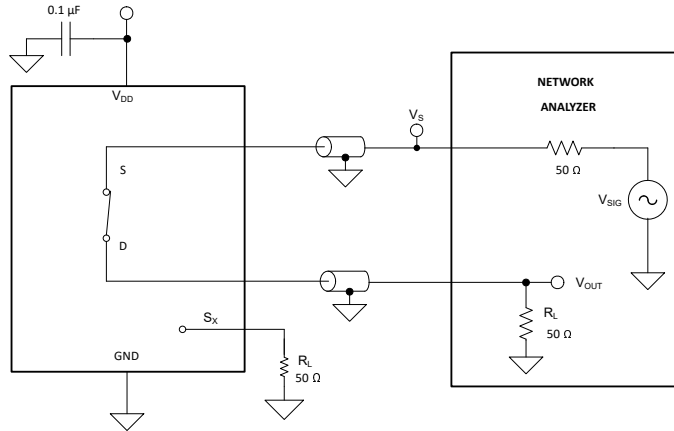

Figure 6-11. Bandwidth Measurement Setup
Bandwidth is defined as the range of frequencies that are attenuated by less than 3dB when the input is applied to the source pin (Sx) of an on-channel, and the output is measured at the drain pin (D) of the device. Figure 6-11 shows the setup used to measure bandwidth.